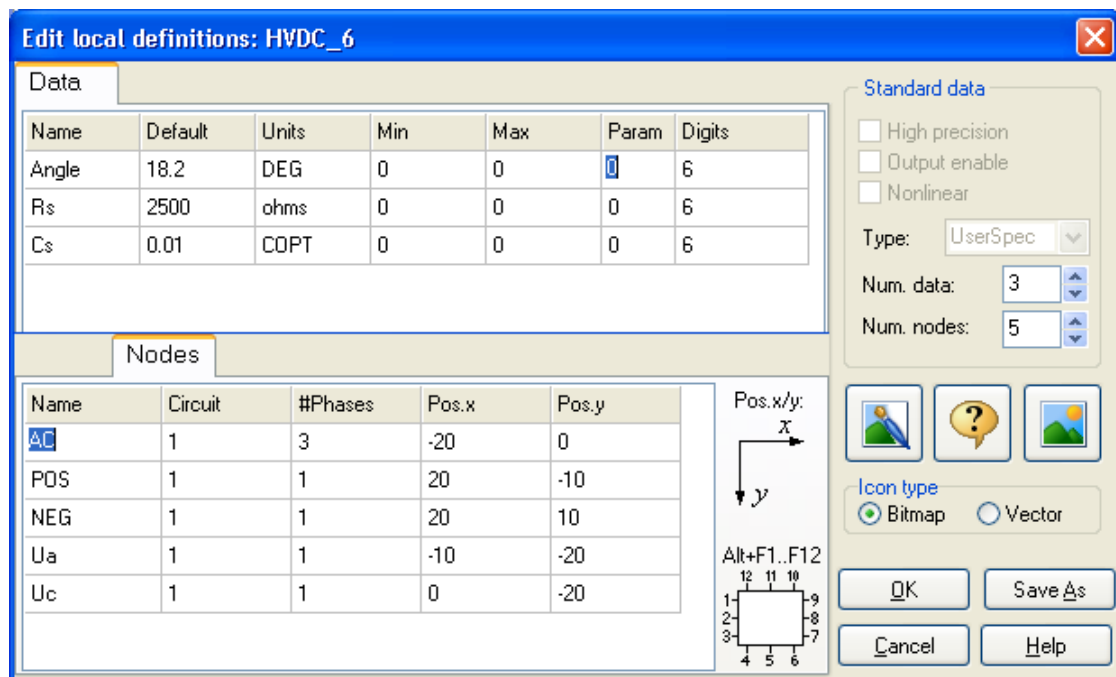

Fig. 4.29 - Control page of a new user specified object.
Support files of USP objects are normally located in the `/USP` folder. The *Edit Definitions* dialog box opens with empty *Data* and *Nodes* tabs in this menu. Number of nodes and data must be in line with the ARG and NUM declarations in the header section of the Data Base Module (DBM) file. The number of data can be in the range of 0 to 64, and the number of nodes in the range of 0 to 32. Control parameters for the object data can be entered on the *Nodes* and *Data* pages of Fig. 4.29.
Pos: Specifies the relative node position in steps of 10 pixels (grid). The standard border positions shown in the picture to the left of Fig. 4.29 have short cut keys Alt+F1..Alt+F12. The position (x, y) can in general be in the range -120,-110,..-10,0,10,..,110,120. The x-axis is oriented to the right while the y-axis is oriented downwards. The node positions should correspond with icon drawing.
Each circuit object has an icon, which represents the object on the screen. This icon can be of bitmap type or vector graphic type as selected under *Icon type*. The conversion from Bitmap to Vector style is not possible so you should not unintentionally change the icon style. Vector graphic enables better zooming and graphic export, font handling and editing, but for simplicity reasons the Bitmap option is shown here. The leftmost of the three speed button on the right hand side of the Fig. 4.29 invokes the built in pixel editor where icons can be edited. Each icon has equal width and height of 41x41 pixels on the screen.
Each component has a pre-defined help file, which can be edited by a built in *Help Editor* accessible via the speed button on the middle speed button in the *Edit definitions* dialog in Fig. 4.29. Using the help editor, users can write optional help file for the objects or add their notes to the existing help text. Available functions and menu field items of the *Help Editor* are described in the 4.2.7.2 section of this manual.
With the rightmost speed button in Fig. 4.29 the user can add a background bitmap/metafile image of any size to the icon. This should only be used in special cases since it could heavily occupy memory and increase the project file dramatically. No down-sampling of the imported image is performed.
- Pos:** Specifies the relative node position in steps of 10 pixels (grid). The standard border positions shown in the picture to the left of Fig. 4.29 have short cut keys Alt+F1..Alt+F12. The position (x, y) can in